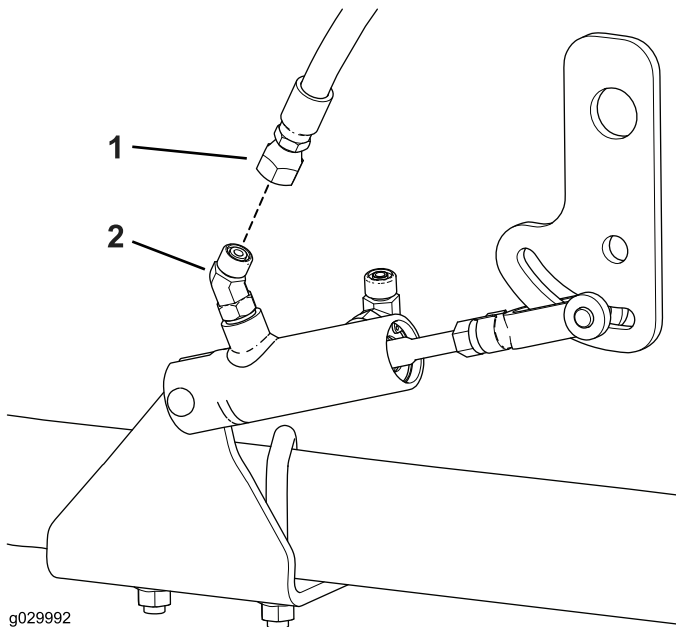

Figure 14
7. Connect the hose fitting (straight) on the short hydraulic hose to the hydraulic fitting (45 degree) on the hydraulic cylinder (Figure 14).